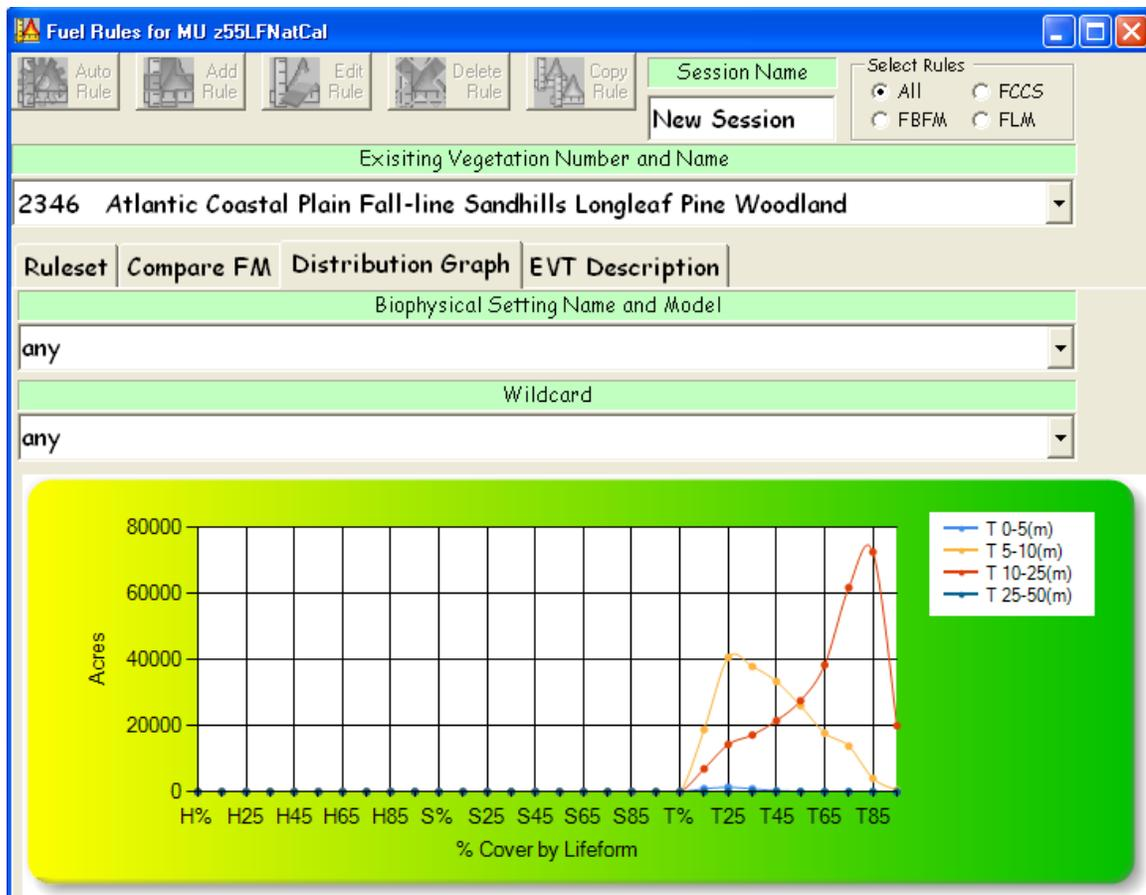

Figure 6-17. Select **Distribution Graph** page tab.
- Use the **Distribution Graph** tab to view the height of the vegetation by cover and the numbers of acres present in the selected EVT within the defined MU (fig. 6-17). For more information see section 7.6.5.